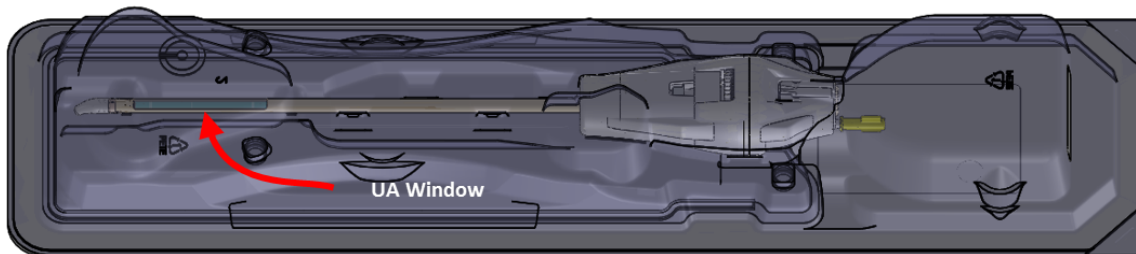

Figure 14: Examine the UA window for air bubbles
- d. Look through the package and carefully inspect the UA window for bubbles while raising and lowering the tip of the UA (*Figure 14*). There should be **no** bubbles of **any** size. If you see bubbles, turn on the pump and gently tap the package-end close to the UA window to dislodge them. If you still see bubbles, repeat this step until all bubbles have been eliminated.